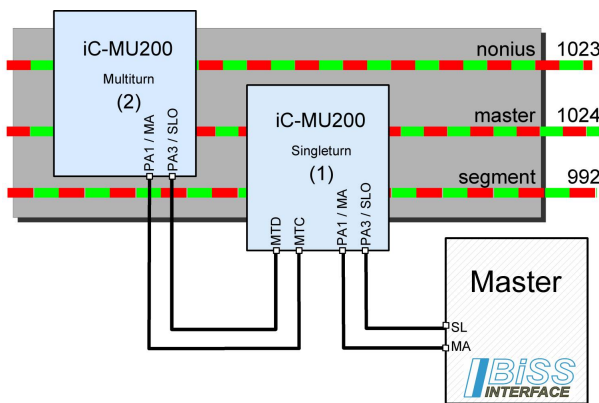

Figure 43: 3-track nonius with 2 iC-MU200
The construction of such a system is shown as an example in Figure 43 and the configuration in Table 71.
Table 71: Configuration example for the 3-track nonius system of Fig.43
To facilitate the initial configuration of an iC-MU200 as a SSI multiturn device the command SWITCH can be used (see page 57). The singleturn iC-MU200 (1) in Figure 43 has to enable the direct communication to the multiturn sensor by setting GET_MT to 1. The configuration of iC-MU200 (2) can take place using the BiSS protocol. After the configuration of the external multiturn MODEA_NEW and RPL_NEW are used to set the target configuration of MODEA and RPL. After